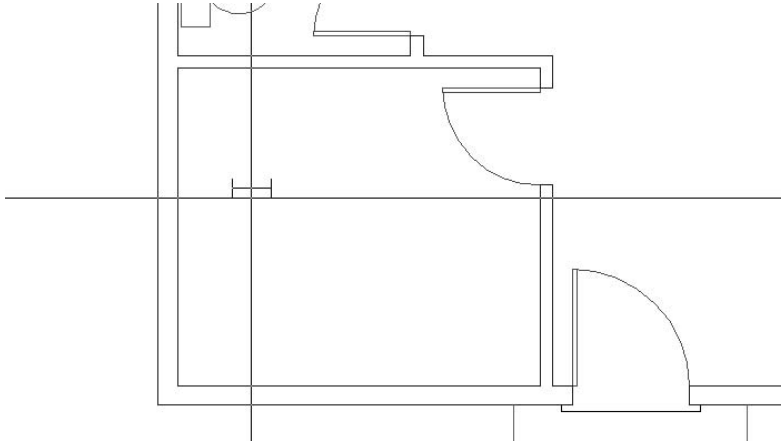

FIGURE 7.20: The win-1 block attached to the cursor
6. In your drawing, the 12" window block is attached to the cursor at the insertion point (see Figure 7.20). Note that it is still in the same horizontal orientation that it was in when you defined the block. To fit into the left wall, you will need to rotate it as you insert it.